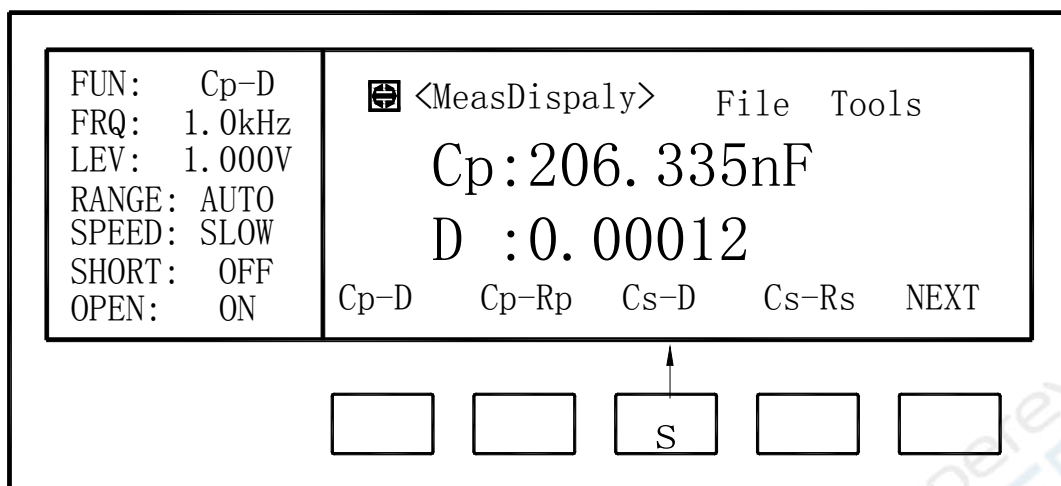

Figure 4-2. Softkey Selection Example
- The softkeys corresponding to the field pointed to by the CURSOR will be displayed. Select and press a softkey. The numeric entry keys and **ENTER** are used to enter numeric data. (Refer to Figure 4-2.)